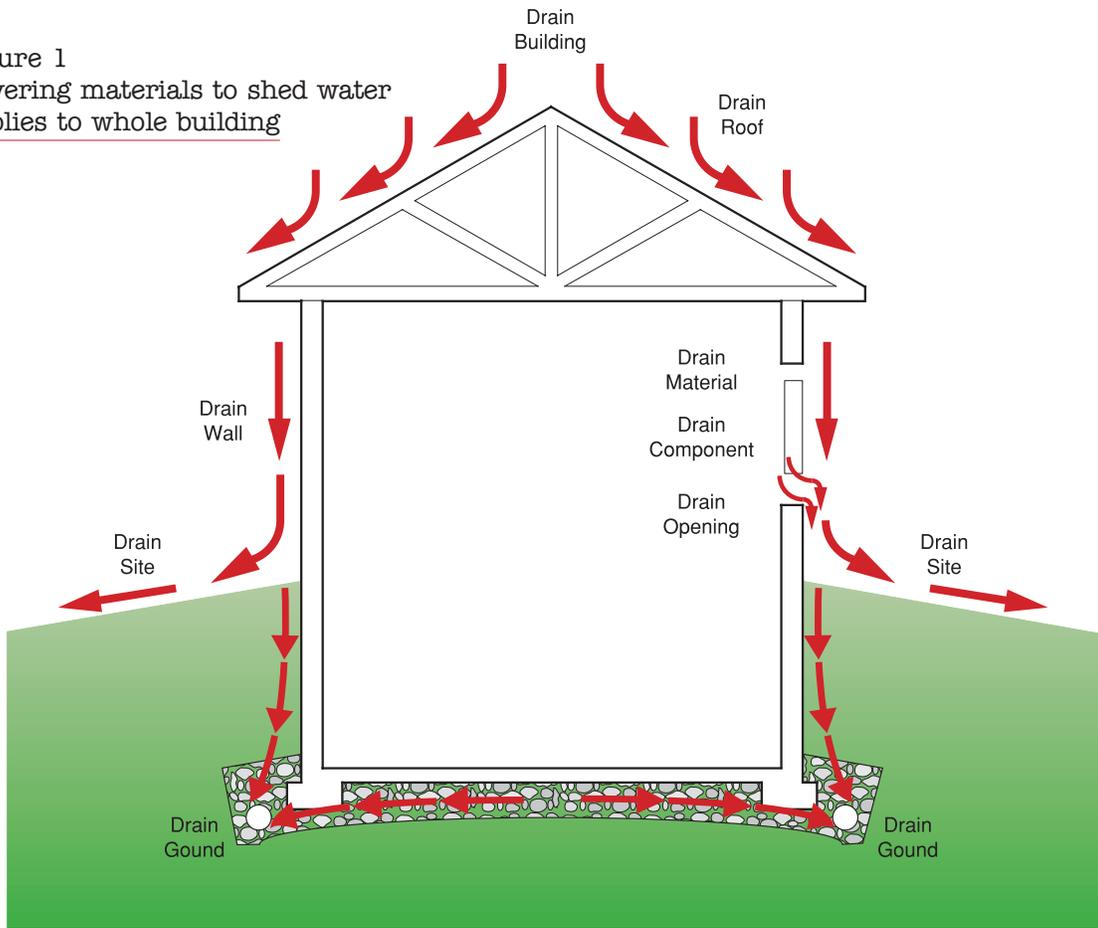

Figure 2
- Drain the building (see **Figure 2**)